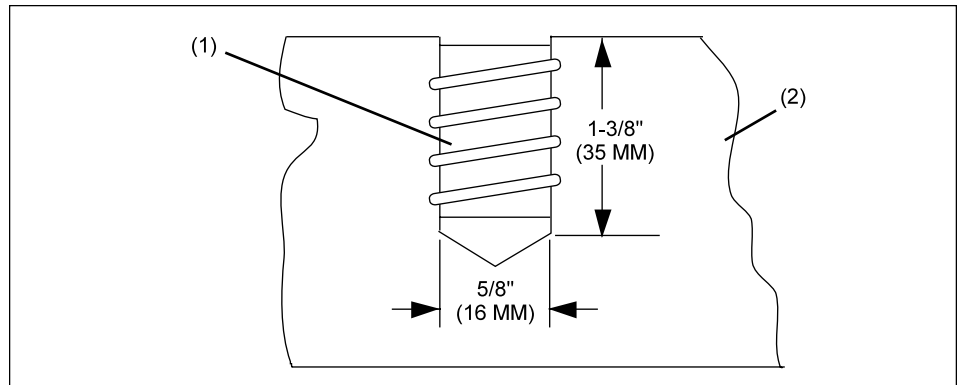

Figure 4. Drill Holes at Attaching Locations
2. Drill 5/8" (16 mm) holes 1-5/16" deep at the attaching holes marked at the floor. The hole must be slightly deeper than the length of the fastener. Refer to *Figure 4*.
3. Align the fastener with the drilled hole and using a 10 mm hex drive wrench, screw the fastener into the wood floor until its top surface is slightly below the top surface of the floor. Refer to *Figure 4*.